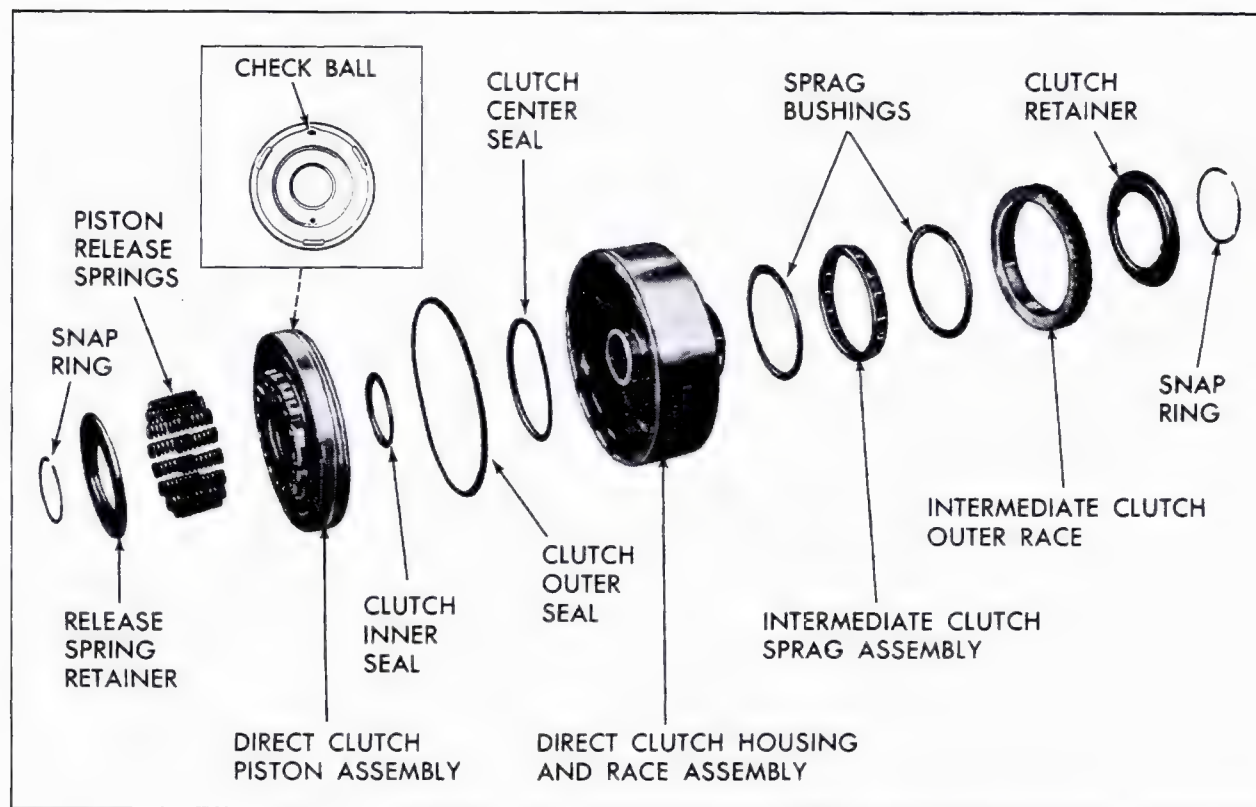

Fig. 7-81 Direct Clutch and Piston Disassembled
m. Direct Clutch and Intermediate Sprag Assembly (Fig. 7-81)